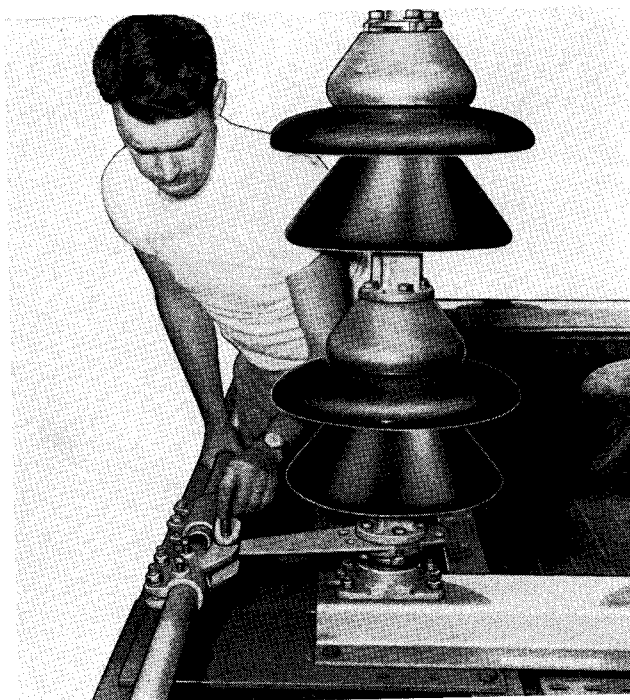

Fig. 11.
(H) Position all three pole units in the full open position. With all pole units open, connect the interphase pipes as shown in Fig. 11. Tighten the clamping bolts on the rod ends but **do not tighten the set screws at this time.**